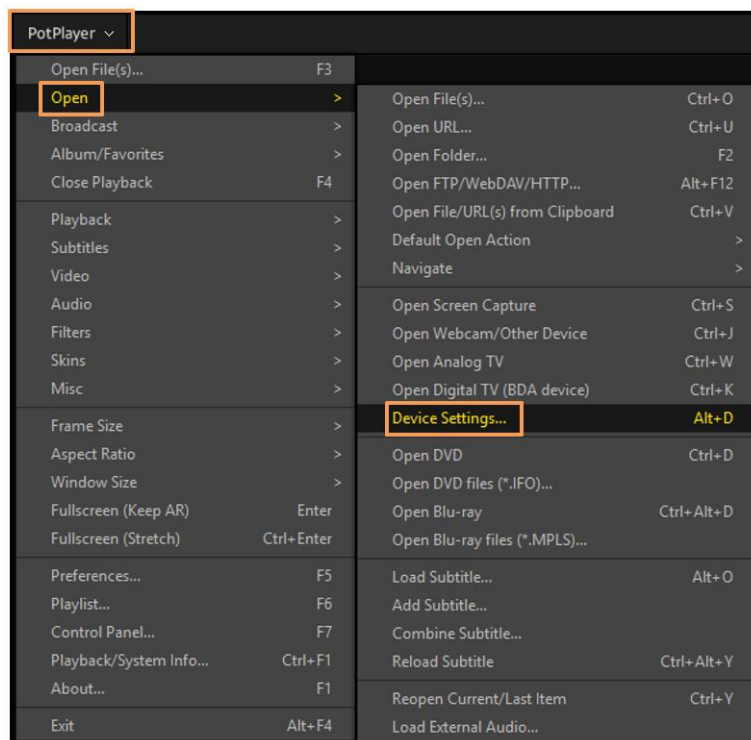

Figure 7.1. Device Settings in PotPlayer 1
2. To configure output resolution, either press the shortcut Alt+D or click **PotPlayer > Open > Device Settings...**, as shown in Figure 7.1.